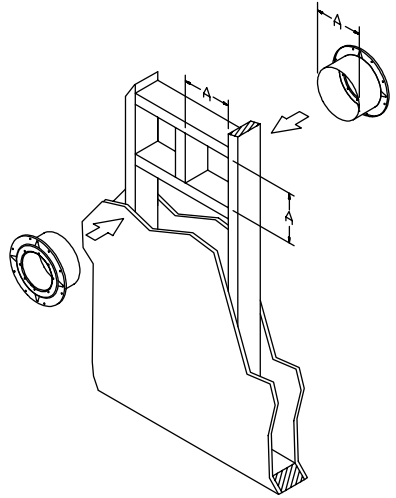

Figure 5
4. Wall Thimble. For a through-the-wall system, install the Wall Thimble, as shown in **Figure 5**. The Wall Thimble is designed to accommodate walls up to 6 inches thick. If you have thicker walls, a sleeve extension should be fabricated and attached to the existing sleeve . Do not fill the air space between the B-vent Pipe Section and the Wall Thimble with insulation, although an RTV-type sealant may be applied around the flange and nail heads if desired.